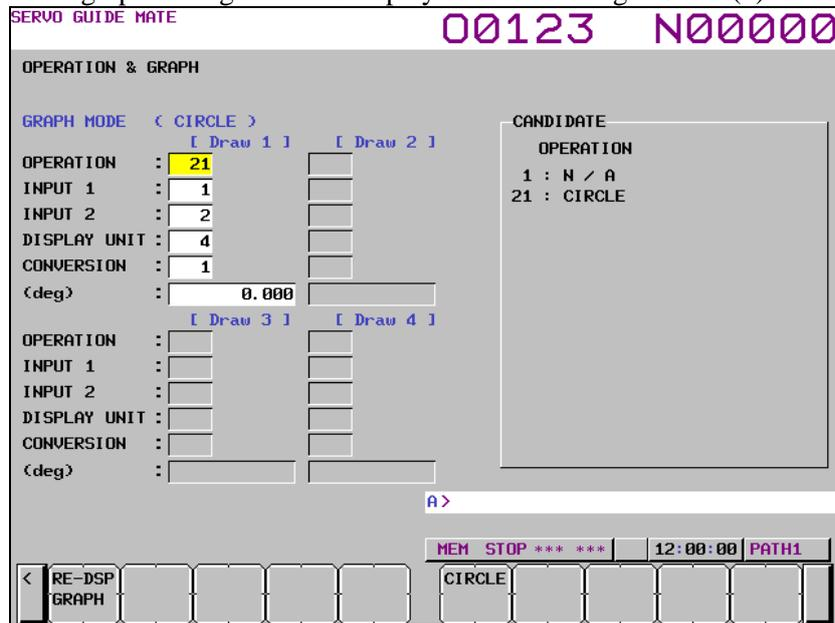

Fig. 1.9.1.3 (d)
- The operation and graph setting screen is displayed as shown Fig. 1.9.1.3 (d).